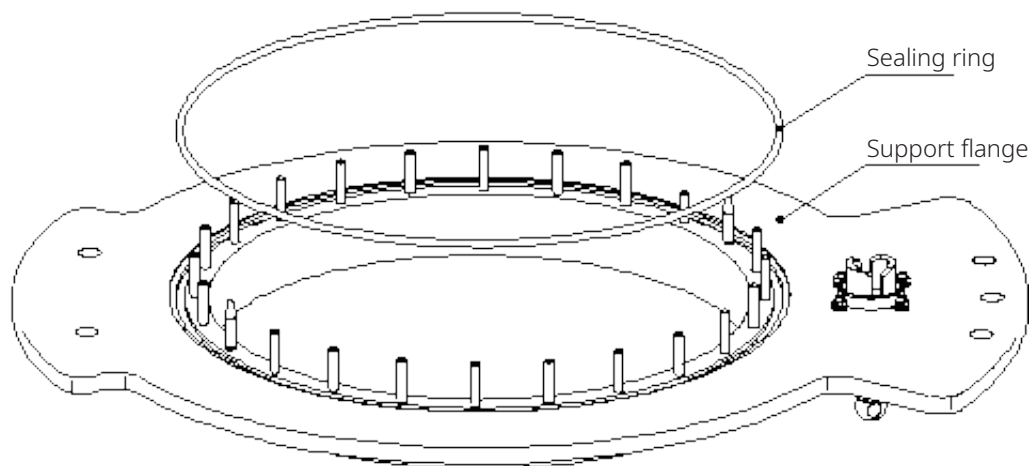

Figure 5-12 Sealing Ring on the Support Flange
- Clean the sealing surface on the inside of the Diverter Switch oil compartment support flange and install the sealing ring (see Figure 5-12).